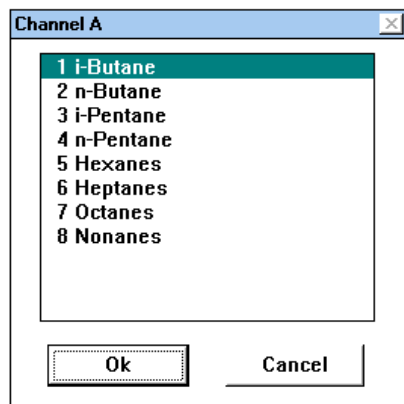

Figure 32 Compound list window
2. Select the **Peak RT and RT Window** command which is found under the **Events** menu for channel A. A window will appear which lists the compounds you previously entered in the channel A Peak Table (See Figure 32).